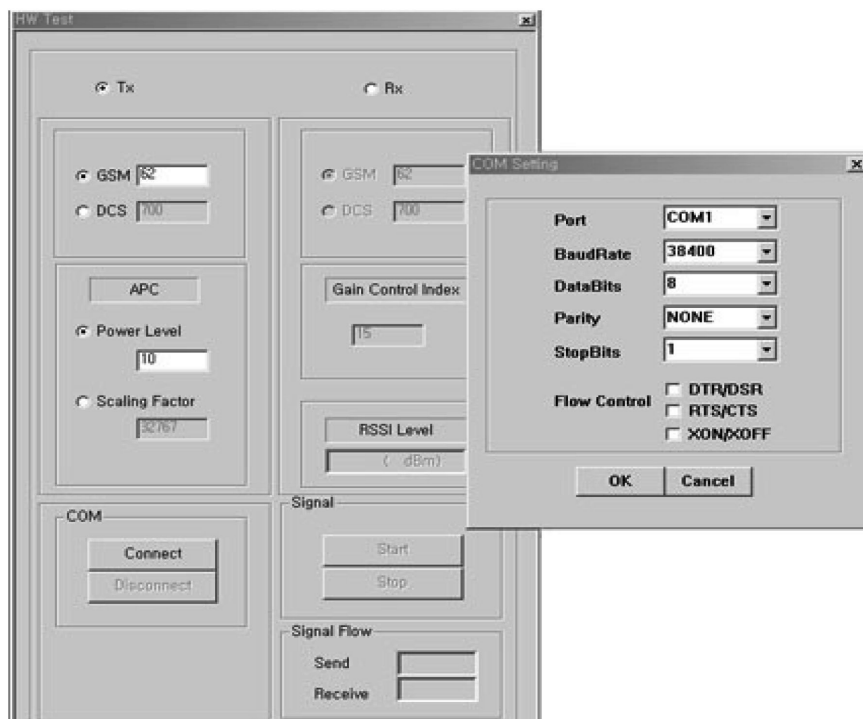

Figure 11-2. HW test setting
1. Connect as Fig 11-2 (RS232 serial cable is connected between COM port of PC and MON port of TEST JIG, in general.)